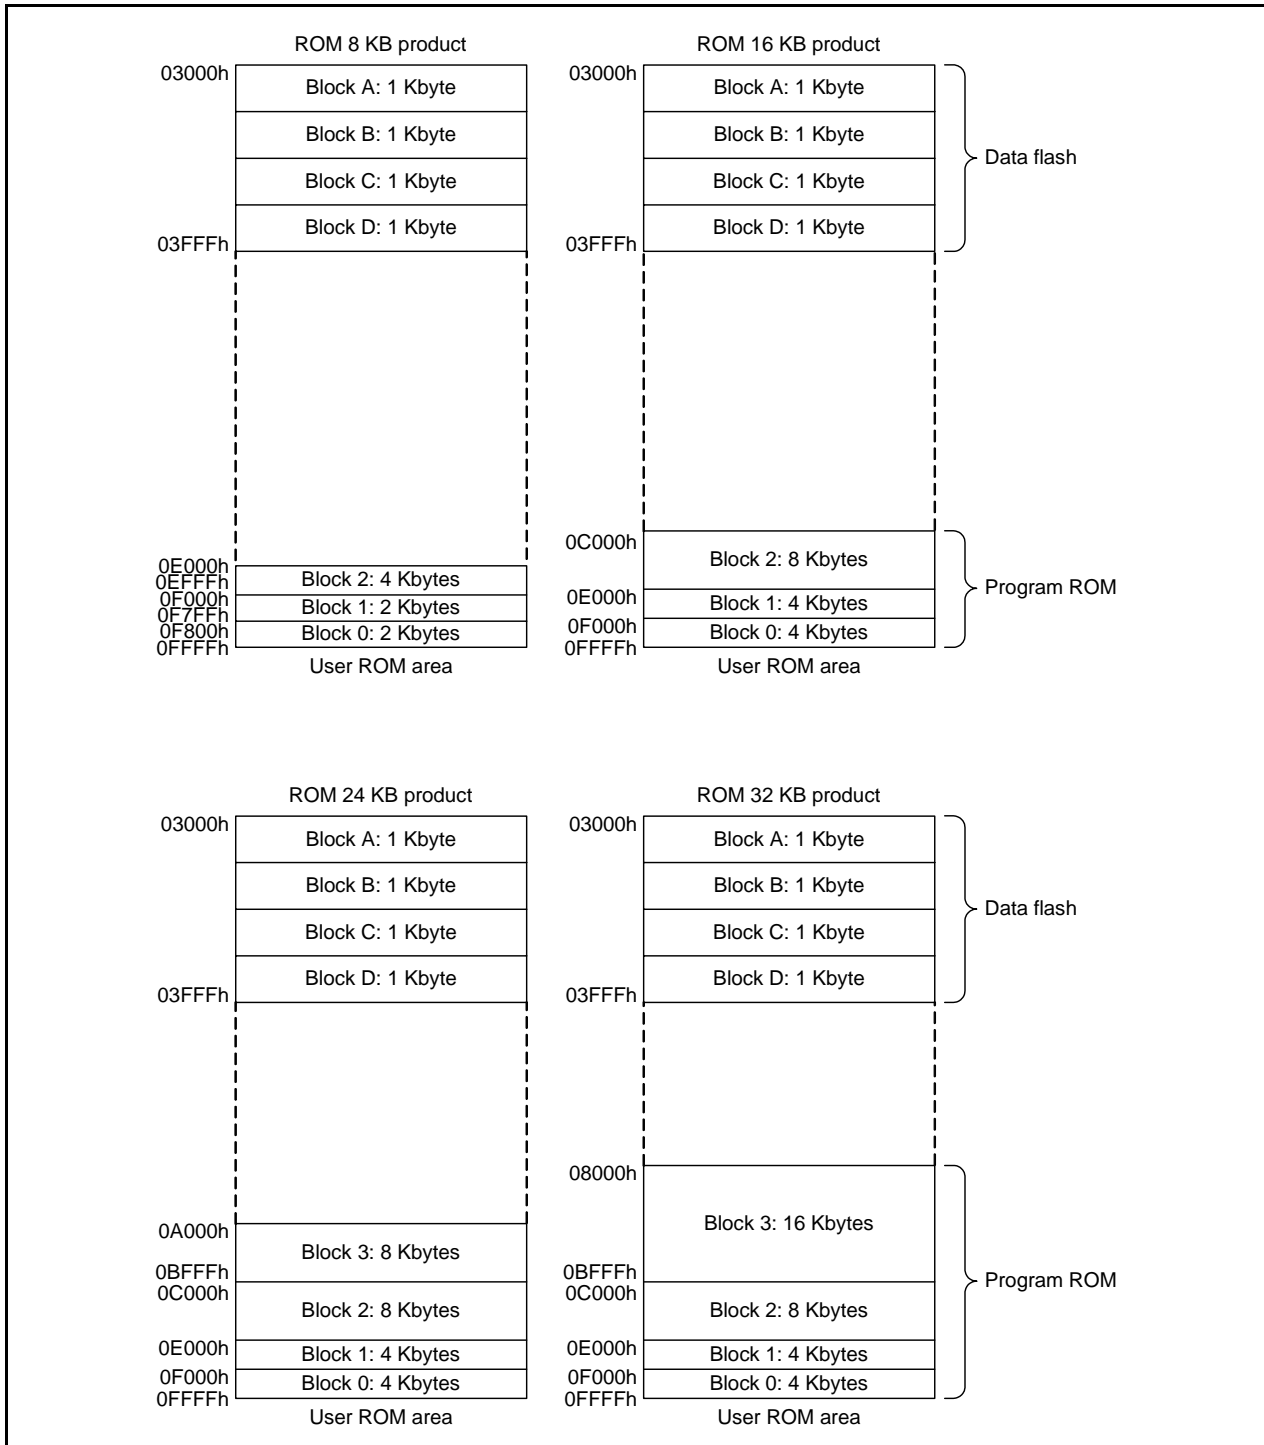

Figure 32.1 R8C/3JM Group Flash Memory Block Diagram
- The number of blocks and block division vary with the MCU. Refer to **Figure 32.1 R8C/3JM Group Flash Memory Block Diagram** for details.
Figure 32.1 shows the R8C/3JM Group Flash Memory Block Diagram.